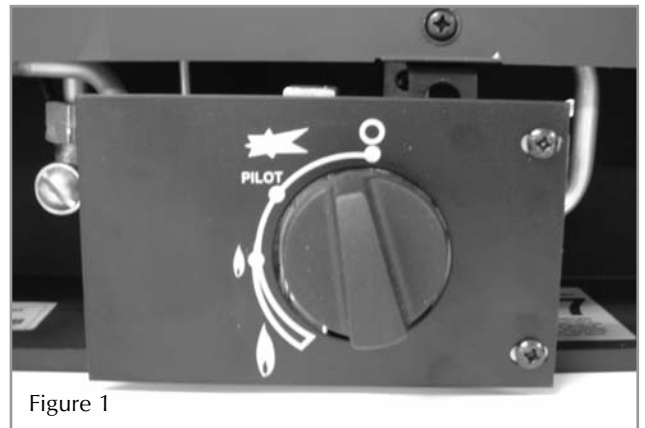

Figure 1
- **DO NOT** burn any foreign material on this fire. Under no circumstances shall the appliance be used if the glass front door or panel has been removed, damaged or is open. On no account should the appliance inlet or outlet openings be blocked or obstructed in any way (see figure 1). **DO NOT** place objects on top of the appliance.
The control knob is marked as shown in figure 1. The pilot is visible behind the left hand side of the burner. Push in and turn the control knob to the SPARK position, and hold there for a few seconds. Continue turning anti-clockwise through the spark click to the PILOT light position, ensuring the pilot has lit. If not, return the knob clockwise, and repeat.